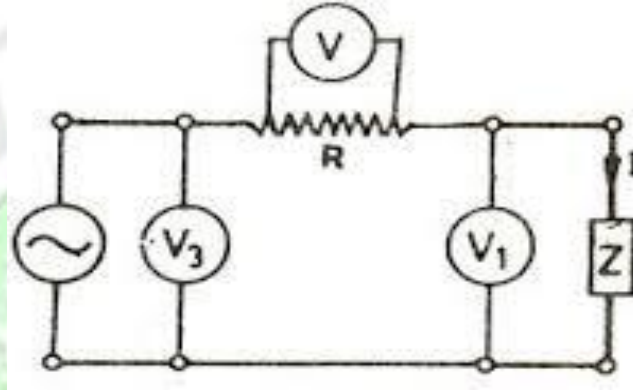

Fig. 1
- 1- Wire the circuit shown in Fig. 1.